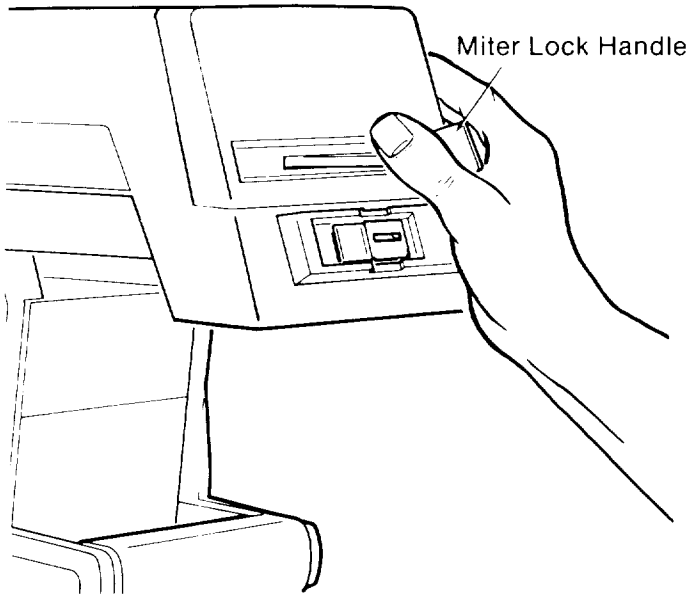

Fig. 137 - Miter Lock - Unlocked
1. Move the *arm* to an unindexed position and leave the *miter lock* in the unlocked position. (Figure 137)